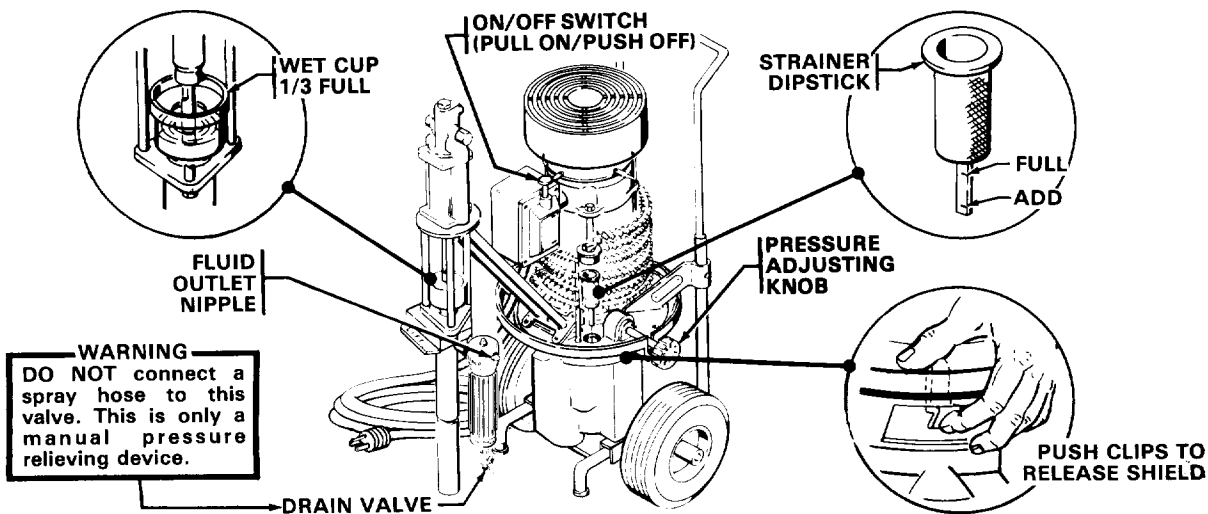

Fig 1
1. Check Hydraulic Fluid (Refer to Fig 1.)
2. Connect Hose and Gun (Refer to Fig 1.)
3. Fill Packing Nut/Wet-Cup (See Fig 1.)
- a. Be sure the ON/OFF switch is OFF. Refer to Fig 1. Then plug the cord into a grounded electrical outlet at least 20 ft (6 m) away from the spray area.
- d. Turn the pressure adjusting knob all the way counterclockwise to lower the pressure setting. Refer to Fig 1.